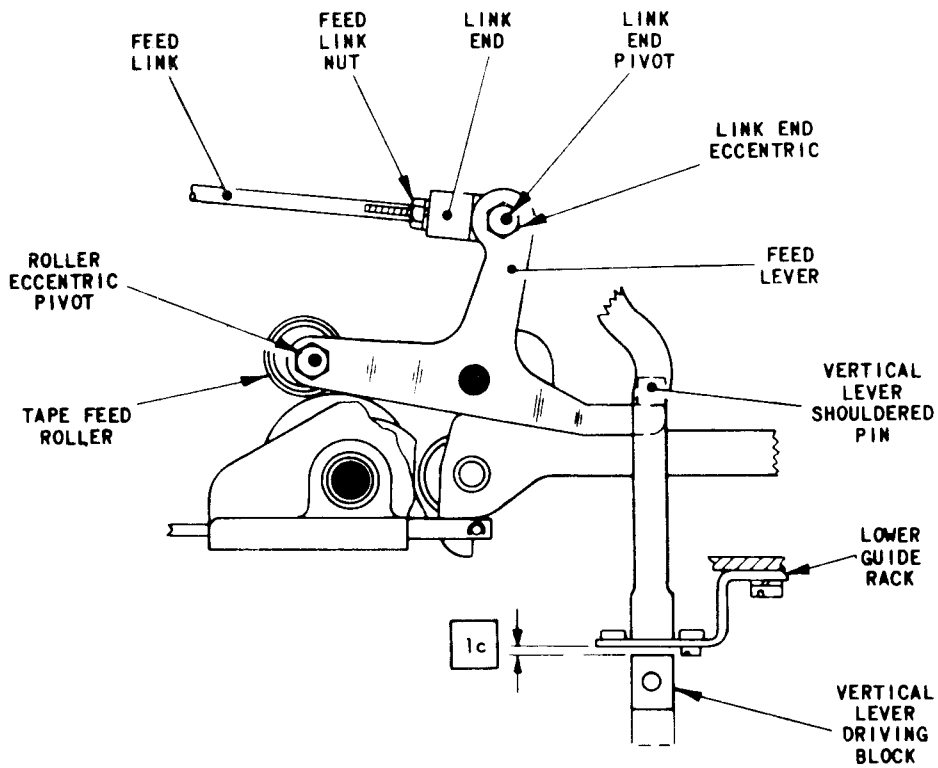

FIG.L.10 FEED LEVER MECHANISM
- 8.1 With the machine in the rest position, hold the tape feed roller, Fig. L.10, down on to its cam. Press the vertical lever shouldered pin against the feed lever and check that there is now a clearance of up to  $\cdot 005$  in. (dimension 'lc') between the vertical lever driving block and the lower guide rack.
9.8 If the pawl is operating in the wrong tooth, slacken the nut securing the link end eccentric, Fig.L.10, and turn the eccentric to its top mid-position. Tighten the nut. Remove the circlip securing the link end on its pivot and slide off the end together with the feed link. Slacken the nut securing the feed link to the link end and screw the end along the thread to obtain the required setting, taking care that there is at least 1/8 in. of thread left in the link end. Refit the link end on its pivot and secure it with its circlip. Tighten the feed link nut carefully, ensuring that the link end moves freely on its pivot.
9.10 To adjust , slacken the nut securing the link end eccentric, Fig.L.10, and turn the eccentric (using the top half of its throw) to obtain the required setting. Tighten the nut.